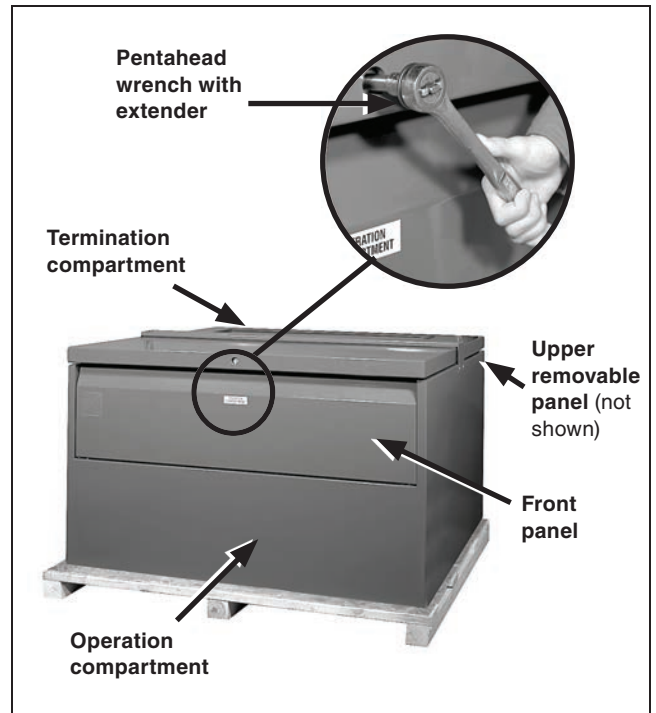

Figure 8. Loosen the pentahead bolts.
- STEP 1.** Loosen the pentahead bolts securing the hinged roofs to the enclosure using a pentahead socket wrench with extender or a pentahead tool. See Figure 8.